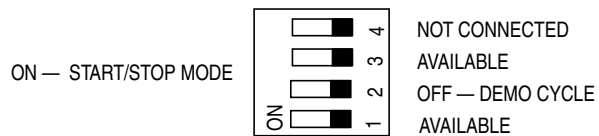

Figure 6. DIP Switch SW1
A DIP switch with three connected switches (refer to Figure 6) is available on the board. One of the switches (2) is tested by the discussed software and two are free for customer use (1 and 3). The control block tests the switch number 2. This switch toggles between demo mode and start/stop mode.